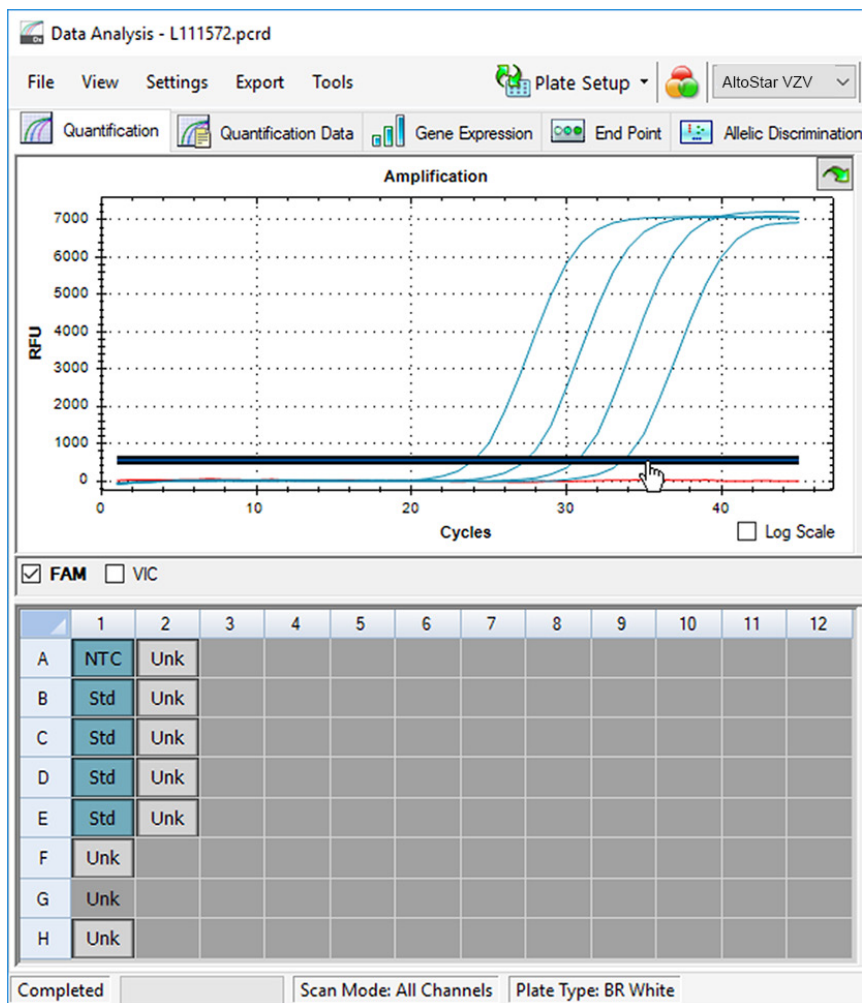

Figure 10: Data Analysis window: setting the FAM™ threshold
5. At the left side of the Data Analysis window untick the **VIC** checkbox and tick the **FAM** checkbox for the detection channel of the VZV target (see figure 10).
6. Select only the wells containing the NTC and the QS in the plate view of the Data Analysis window (see figure 10).
7. Drag the threshold well above the signal of the NTC into the exponential area of the QS signals (see figure 10).